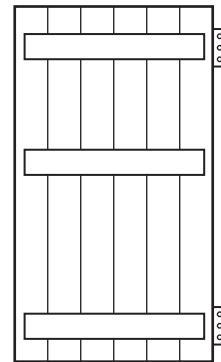

Fig. 1b
- (b)** Show on Fig. 1b how the door can be modified to ensure it has greater structural strength. [2]